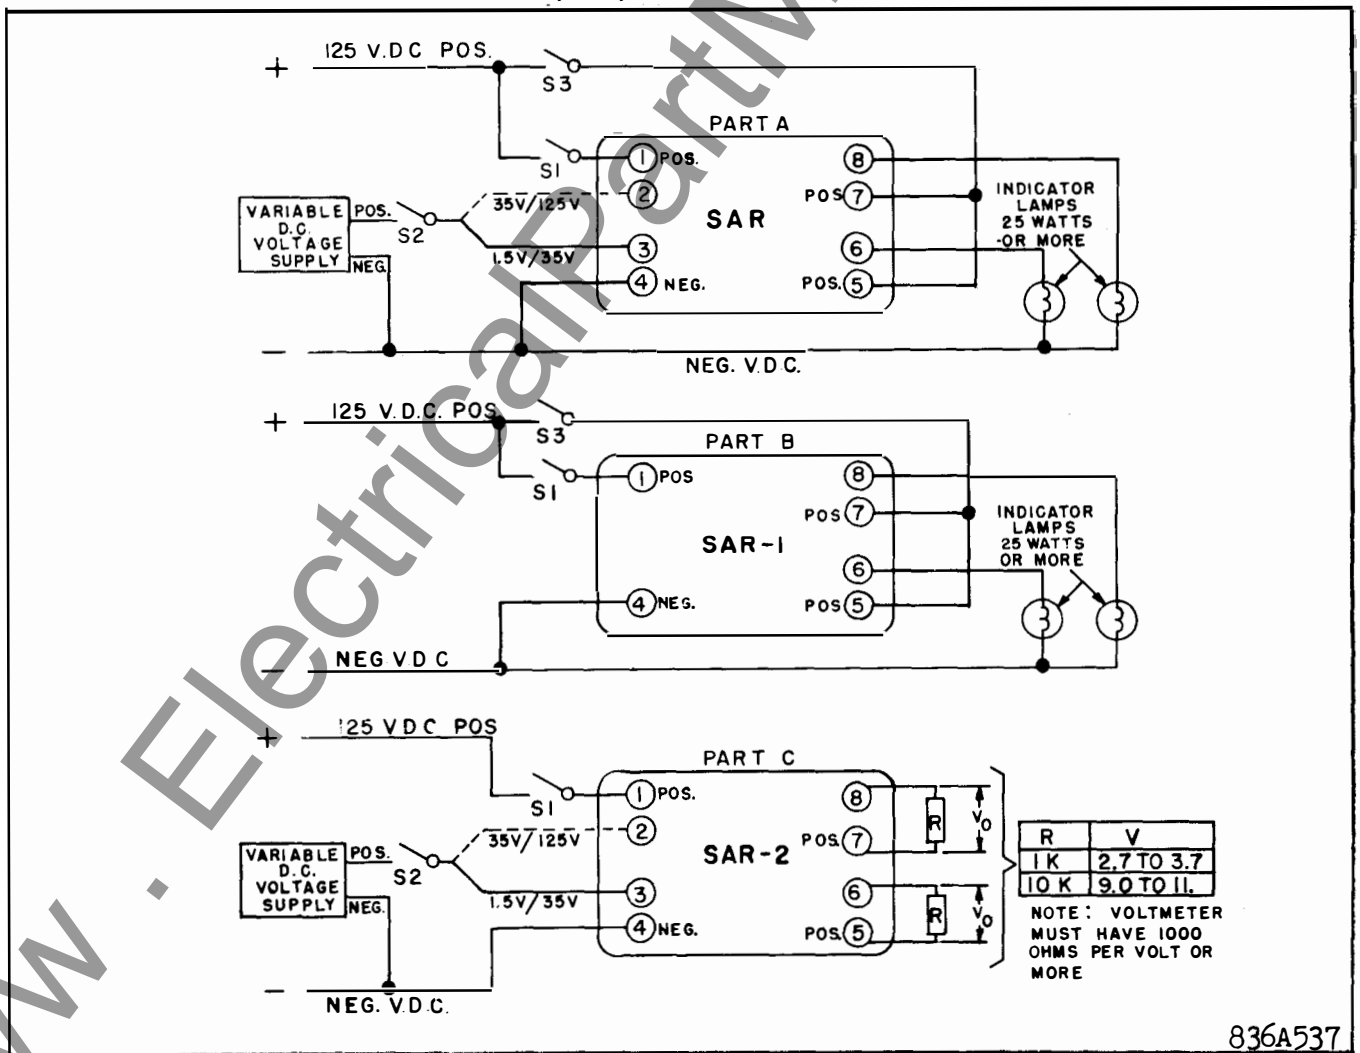

Fig. 10. Test connections for the type SAR, SAR-1, and SAR-2 relays.
1. Connect the unit as shown in Figure 10.
Refer to Part A of Fig. 10.
Refer to Part B of fig. 10.
Refer to Part C of Fig. 10